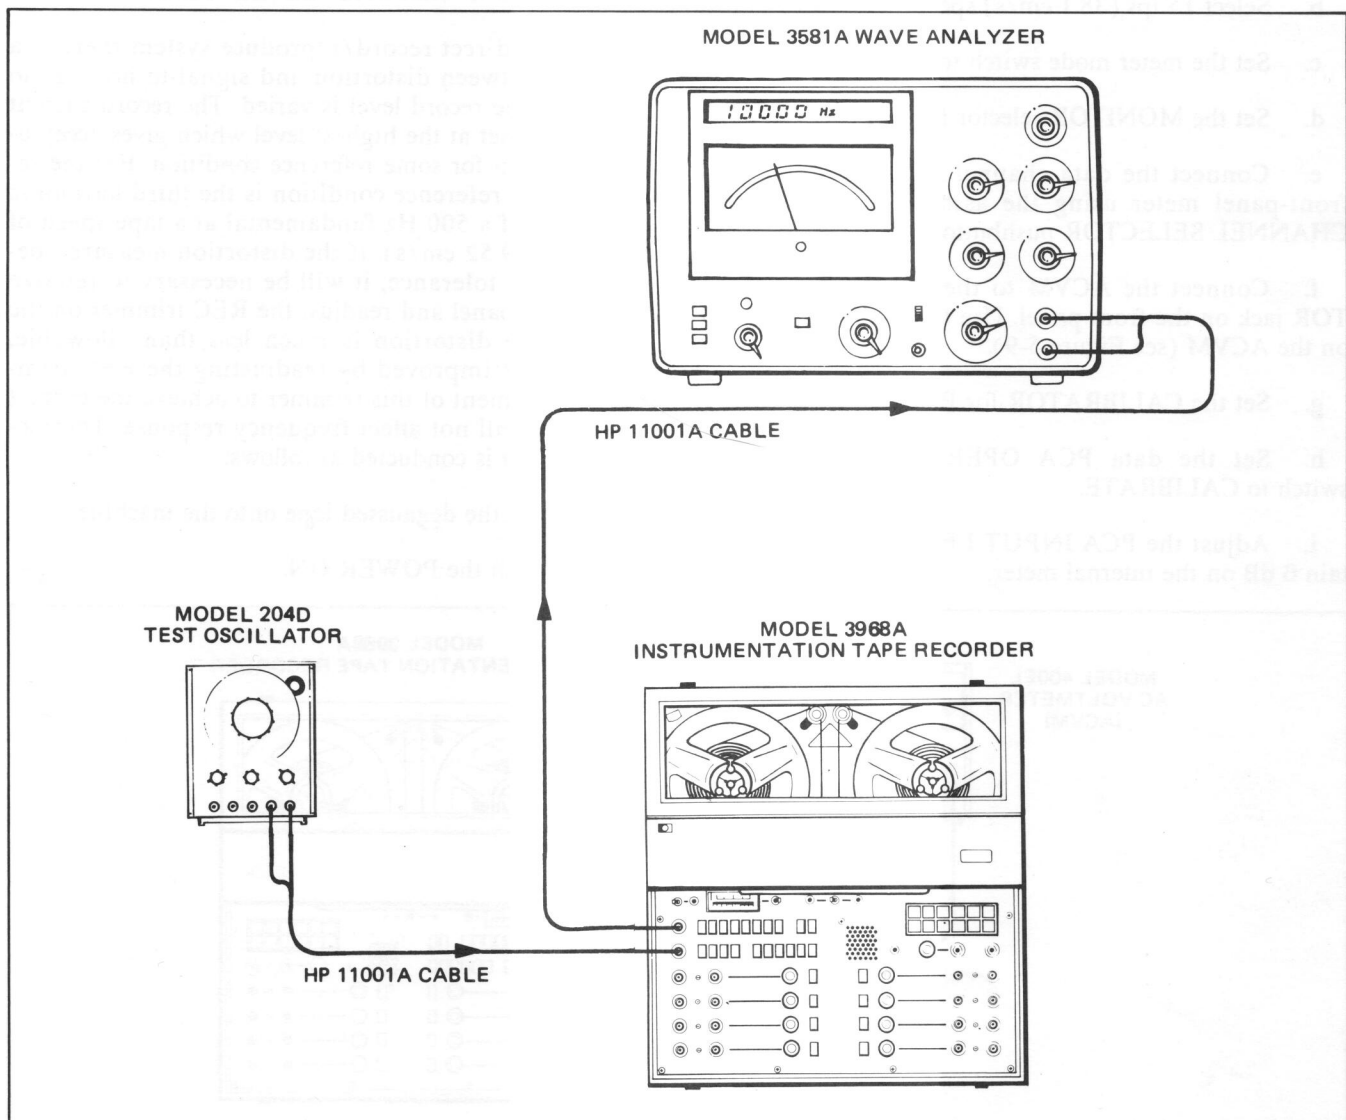

Figure 5-10. Direct Record Distortion Test Setup
- f. Connect the test oscillator to the front panel EXTERNAL CAL INPUT jack. Set its frequency to 500 Hz and its output level to a convenient value (see Figure 5-10).